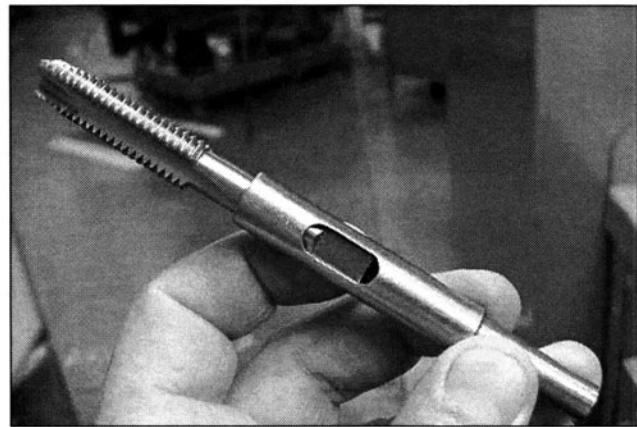

FIGURE 8-12 A simple tap extension can be made by drilling the appropriate size hole in the end of a shaft and milling a drive slot.
20. Make a simple tap extension. (See Fig. 8-12)
They will bind if you do because the chips lodge between the flutes. It is better to use a spiral pointed tap as shown in Fig. 8-12 for power tapping because chips get pushed ahead and don't cause binding. Spiral point taps are also known as "gun taps."